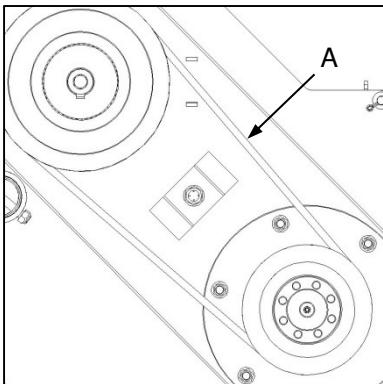

Fig. 10
- ▬ Drive belt tension should be checked at the mid-point between pulley centres (Fig. 10-A). A deflection of ± 20 mm should be evident when single finger pressure is applied to a single belt.
- ▬ Dryfbandspanning moet halfpad tussen die katrolas-sentrums gekontroleer word (Fig. 10-A). Speling van ± 20 mm behoort met eenvinger-druk op 'n enkele band sigbaar te wees.